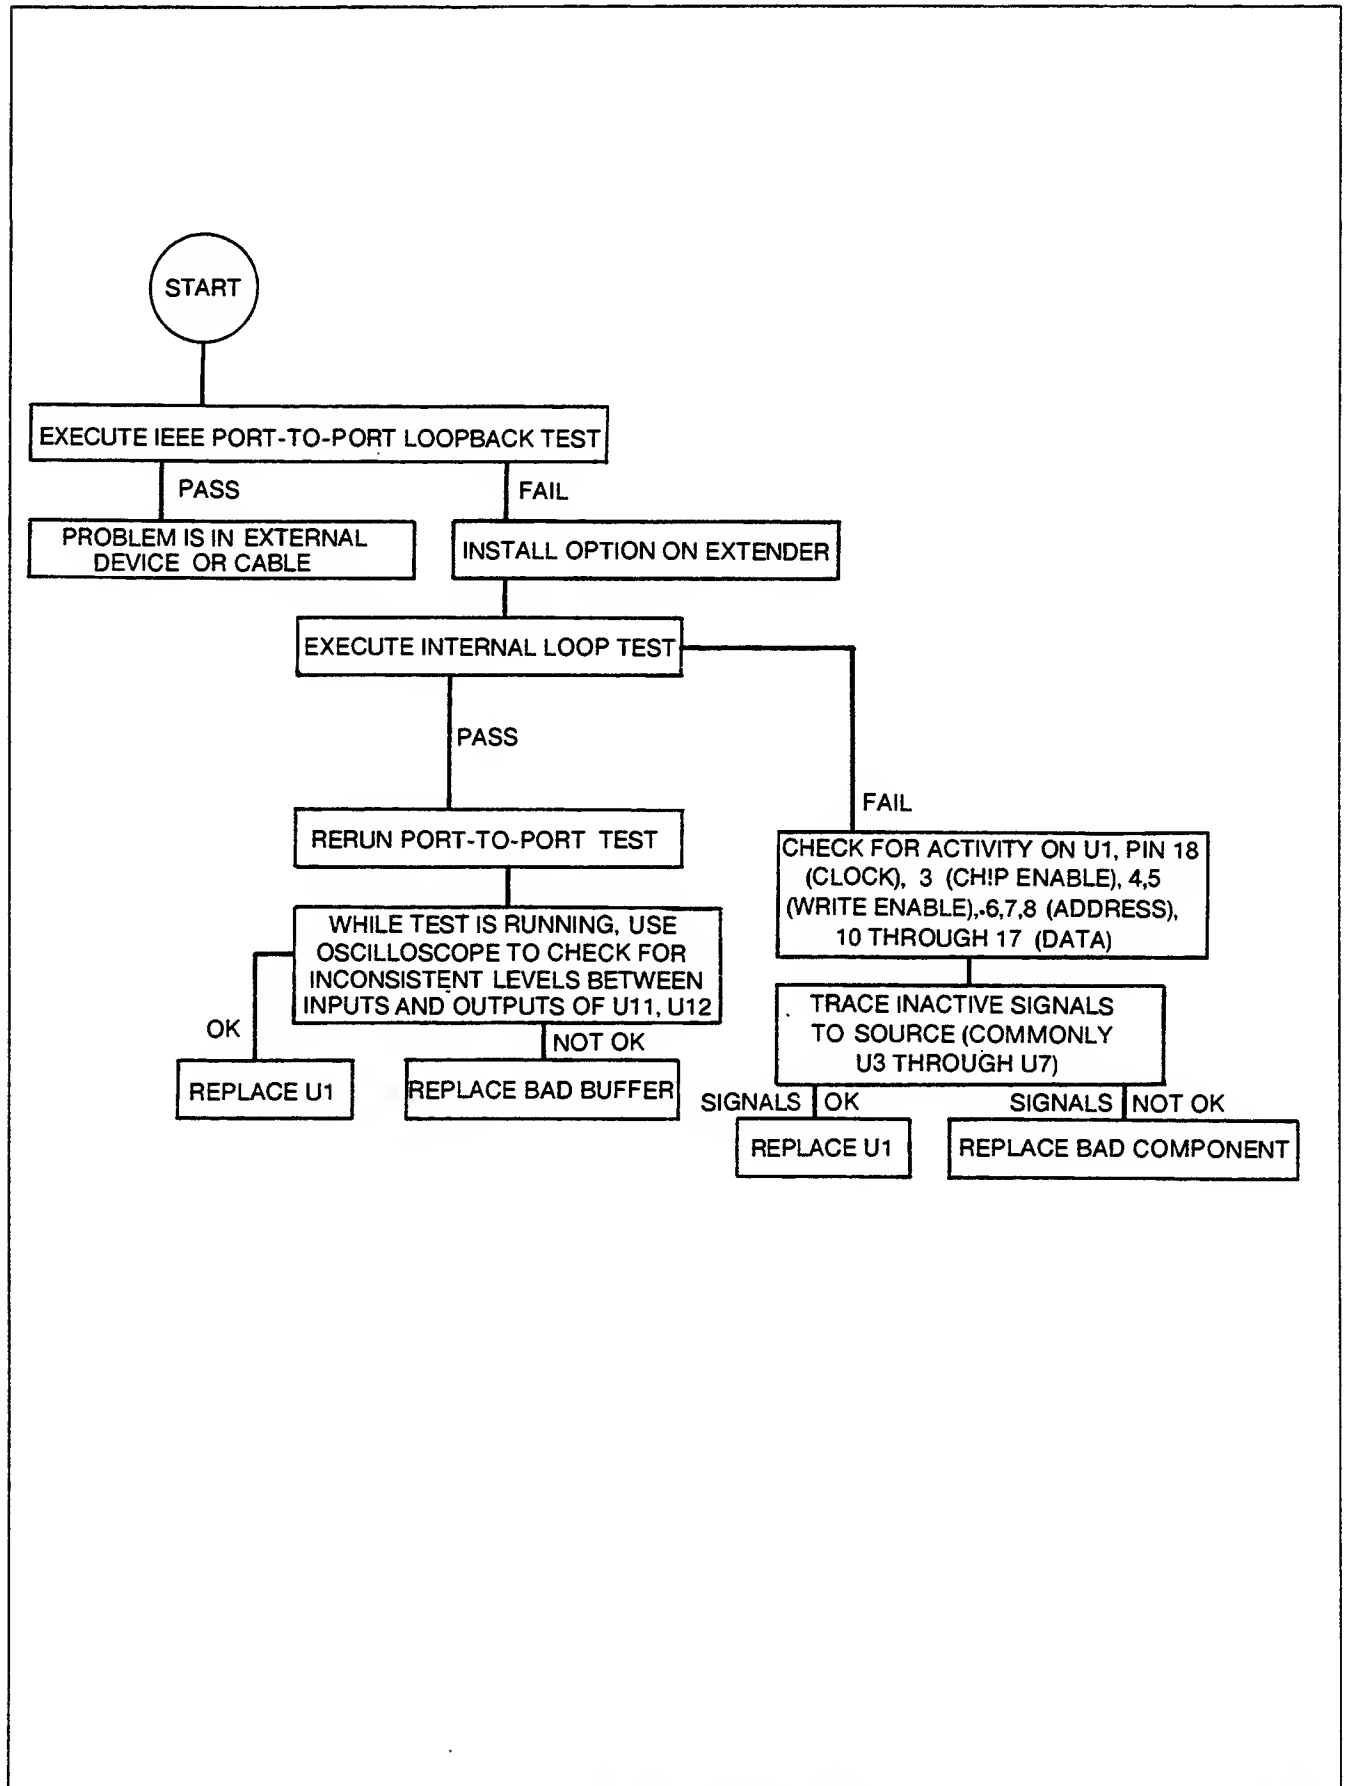

Figure 008-3. Troubleshooting the IEEE-488 Port (cont)
- Follow the steps in Figure 008-3.